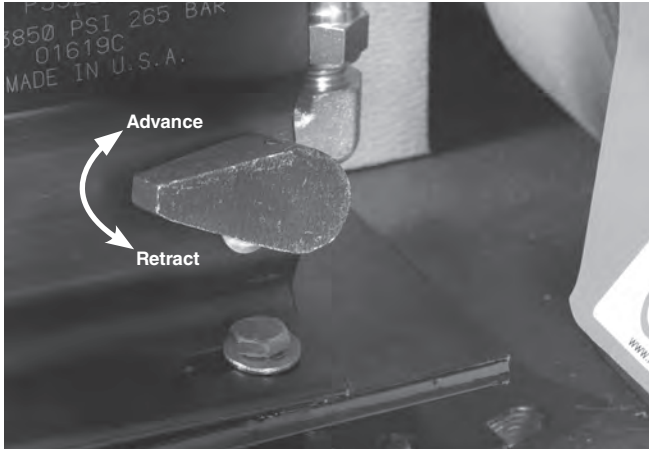

Figure 9 – Pump Release Lever Position
- To retract the groove roll, move the pump lever to the retract position. See Figure 9.